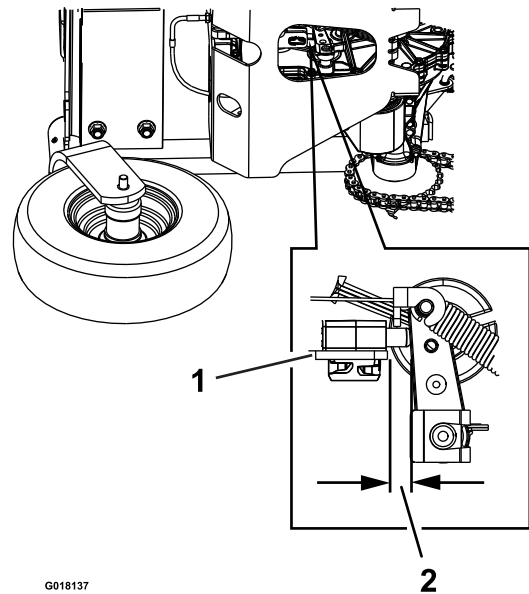

Figure 19
5. Check the distance from the parking brake switch bracket to the hydro brake arm. The distance should be 3.2 mm (1/8 inch). See Figure 19.